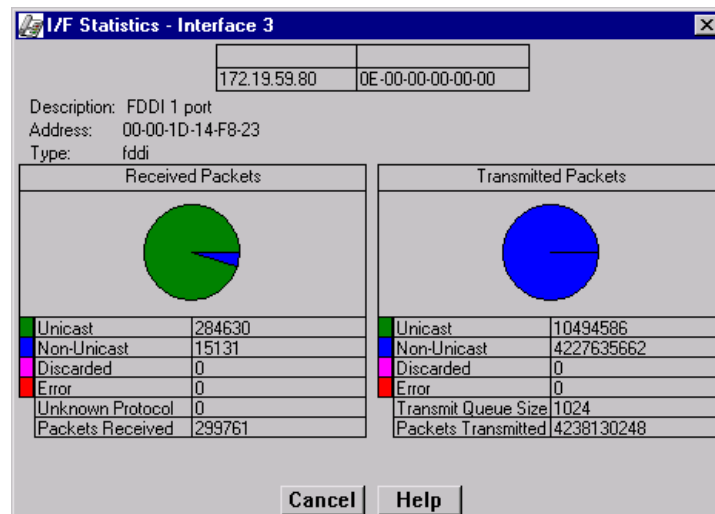

Figure 2-9. Interface Statistics Window
The Interface Statistics window (Figure 2-9) provides MIB-II interface statistical information — including counts for both transmit and receive packets, and error and buffering information — for each available port interface. Color-coded pie charts also let you graphically view statistics for both received and transmitted Unicast, Non-Unicast, Discarded, and Error packets.
2. Click on **Detail**. The appropriate Interface Statistics window, Figure 2-9, will appear.